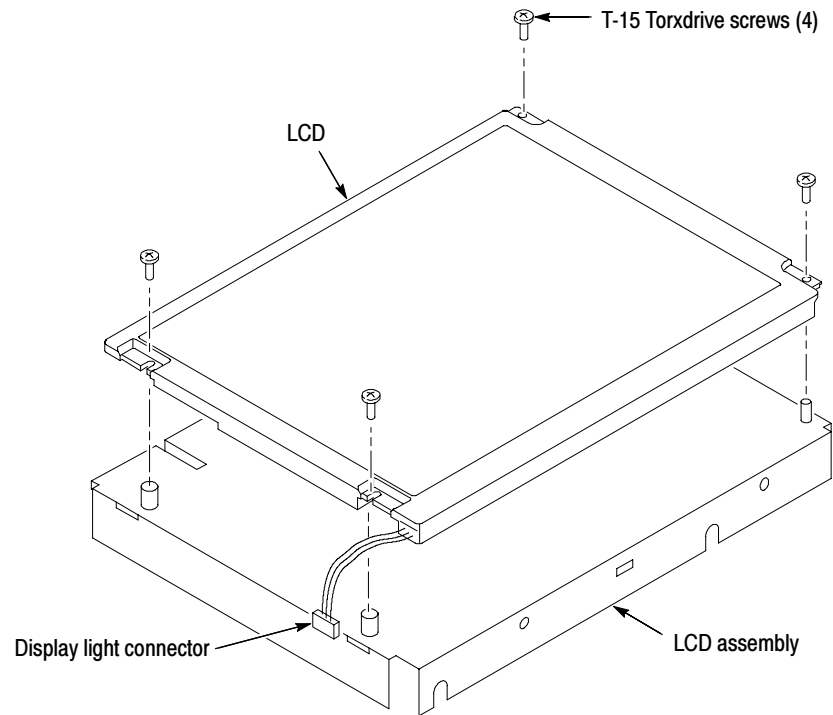

Figure 6: Install the old display to the new rear bracket assembly
- b. Remove the four T-15 Torxdrive screws that secure the old LCD to the old LCD assembly. See Figure 6 for T-15 screw locations.
6. Install the new LCD assembly and touch screen panel by sliding them together until tabs snap into the notches. See Figure 6.